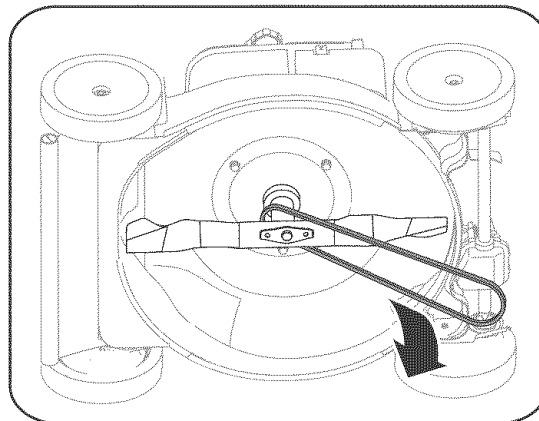

Figure 7
3. Push transmission up a little and slide belt off the transmission pulley. Lift mower to access belt from underside of mower. Slide belt off of engine pulley and around the blade. See Figure 7.